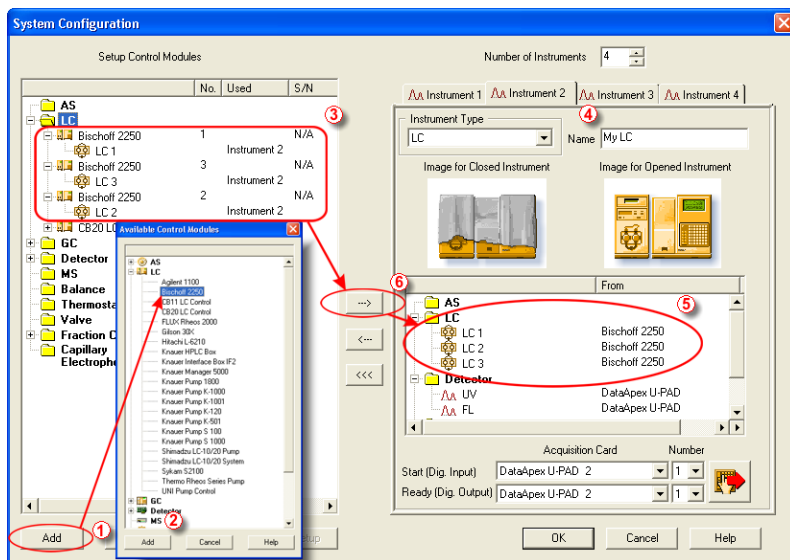

Fig 5: System Configuration
- In the **System Configuration** dialog press the **Add** button (① on Fig 5) to invoke the **Available Control Modules** dialog.
- Select the **Bischoff 2250** in the **LC** section and press the **Add** (② on Fig 5) button.
- The **Bischoff 2250** item ③ appears in the *Setup Control Modules* list of the **System Configuration** dialog.
- Drag the LC chromatograph icon from the *Setup Control Modules* list on the left side to the desired *Instrument* tab ④ on the right side ⑤, or use the **--->** button ⑥ to do so.
**Note:** If the gradient elution with several solvents will be used, the **Bischoff 2250** pump has to be added several times, once for each pump. **Fig 5** shows the use of three **Bischoff 2250** pumps.